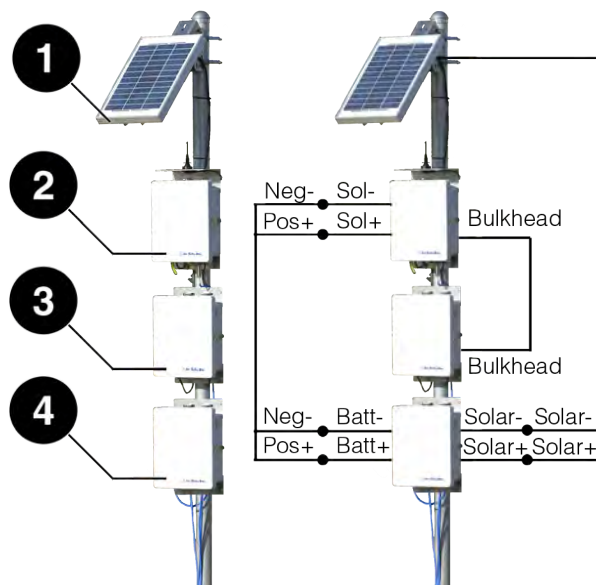

Figure 2.15 Master radio pole installation and wiring
1. Hold the enclosure to the pole at the desired elevation. The external battery kit should be installed below the TROLL Link Telemetry enclosure, as shown in Figure 2.15 .